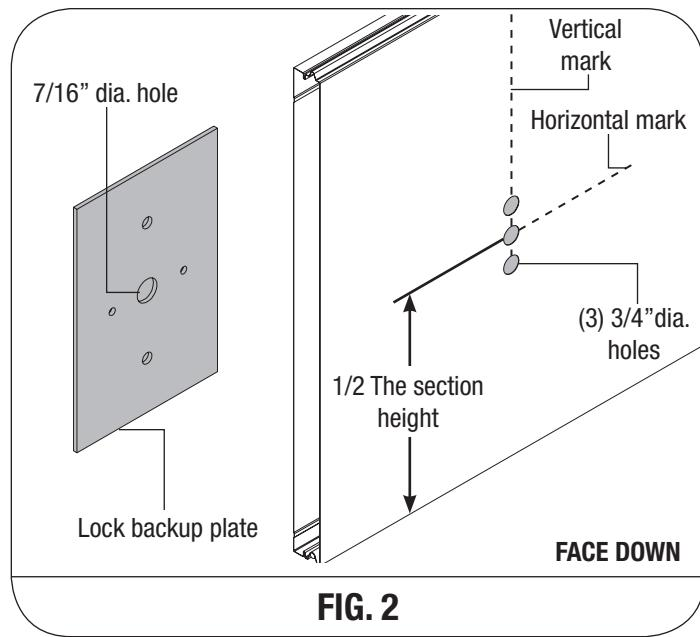

FIG. 2
9800/9700/8300/8500/8700 & WOOD DOORS, (SEE FIG. 2): Place the lock section face up on (2) padded sawhorses for a single car door or (3) padded sawhorses for a double car door. Locate the middle of the center stile, measure the distance from the end of the section to the middle of the center stile. Turn the section face down, transfer the measurement and mark a light vertical line, then mark a horizontal line at half the section height. Align the $7/16$ " diameter hole of the lock backup plate at the intersection point of the horizontal and vertical marks, use the lock backup plate as a template to mark the (3) holes, remove the lock backup plate and drill (3) $3/4$ " diameter holes through the section.